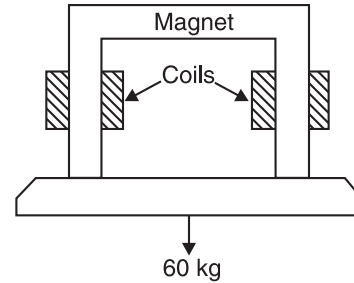

Fig. 9.31
**Example 9.48.** A lifting magnet of inverted U-shape is formed out of an iron bar 60 cm long and  $10 \text{ cm}^2$  in cross-sectional area [See Fig. 9.31]. Exciting coils of 750 turns each are wound on the two side limbs and are connected in series. Calculate the exciting current necessary for the magnet to lift a load of 60 kg, assuming that the load has negligible reluctance and makes close contact with the magnet. Relative permeability of the material of magnet is 600.